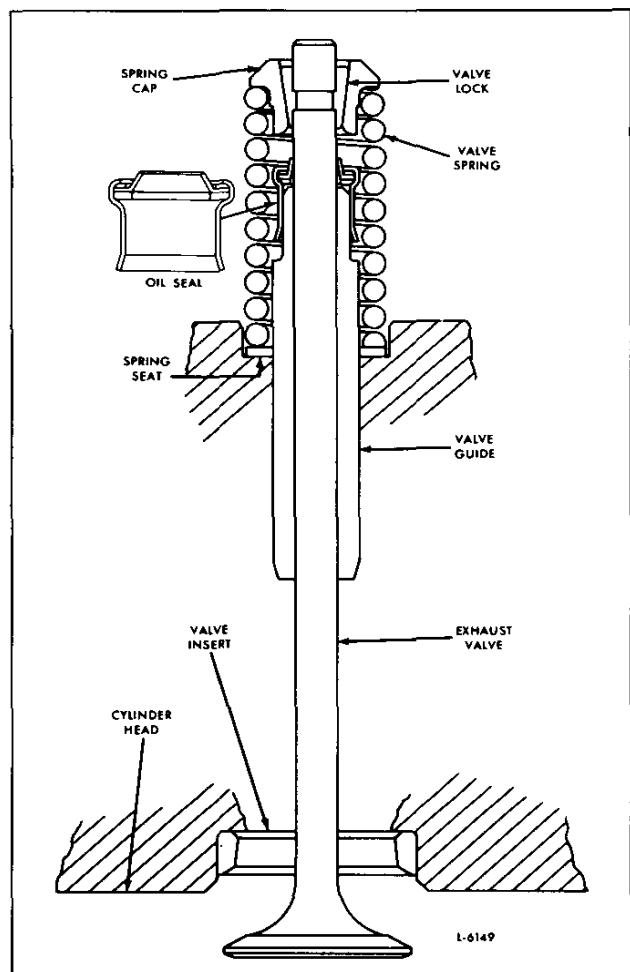

Fig. 18 - Current Valve Guide Oil Seal
Effective with four valve cylinder head engines built the second quarter of 1980, a new exhaust valve guide oil seal is being used. The new oil seal (Fig. 18) has a metal case and the slightly reduced inner diameter of the seal provides a press fit on the valve guide. The former oil seal was retained by a spring at the small end and a retainer at the large end. The former and current oil seals are interchangeable on a cylinder head.
- c. Install the spring seat washer over the valve guide and let it drop into the valve counterbore (Fig. 18).